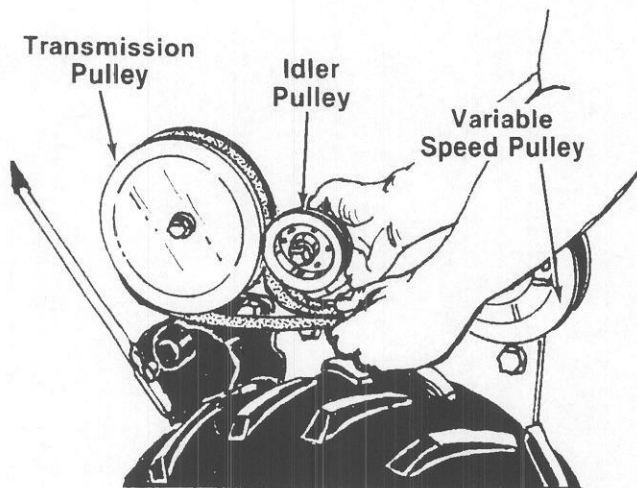

FIGURE 27.
3. Lift up on the idler pulley by hand, and remove the belt from beneath the idler pulley. Lift belt off the transmission pulley and variable speed pulley. See figure 27.